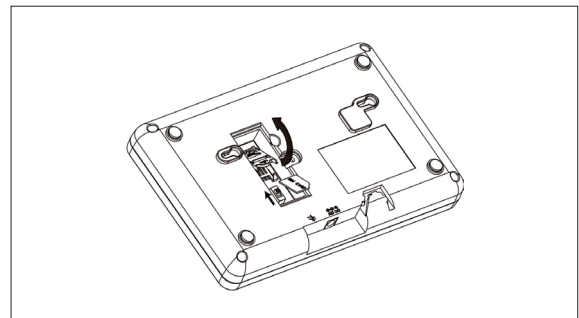

Figure 2
2. Insert the SIM-card into the SIM-card holder. Figure 2.